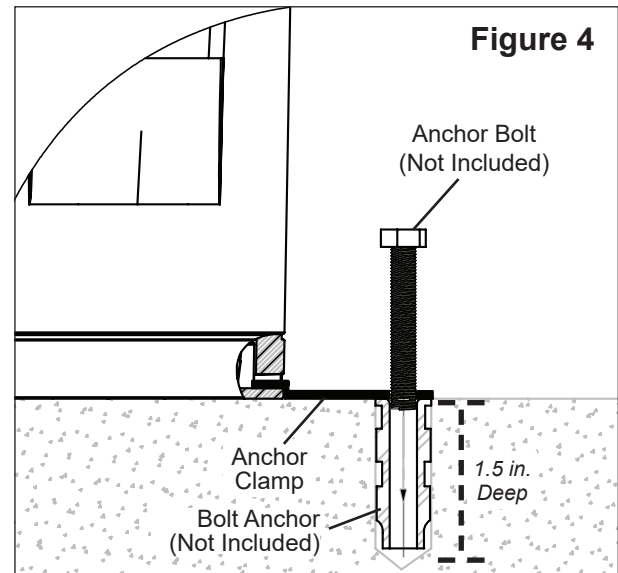

Figure 4
5. Use a masonry drill bit and drill a hole in the concrete with a diameter as determined by the concrete anchor, at each of the marks on the equipment pad. The hole should be approximately 1.5 inches deep. See **Figure 4**.